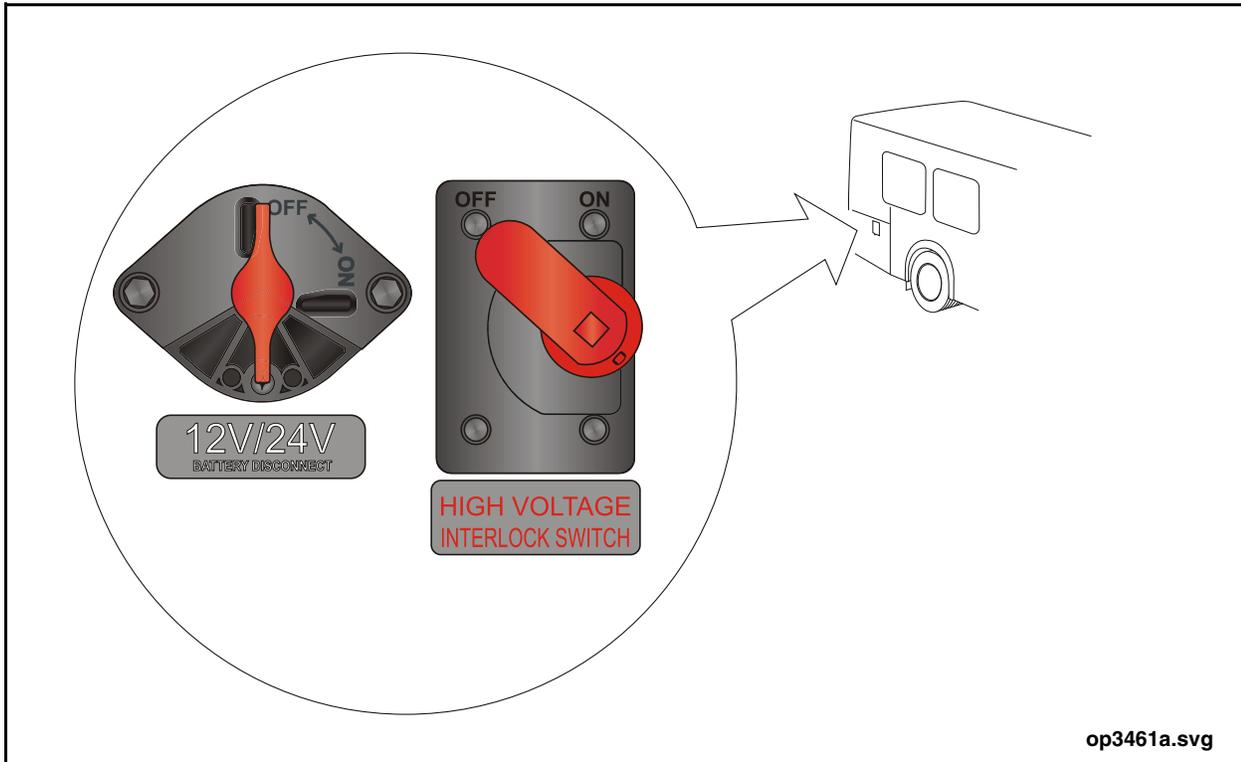

Figure 1: Battery Disconnect & High Voltage Interlock Switches
10. Shutdown the 12/24 battery power to the vehicle by setting the Battery Disconnect to the OFF position. See “Figure 1: Battery Disconnect & High Voltage Interlock Switches” on page 16.